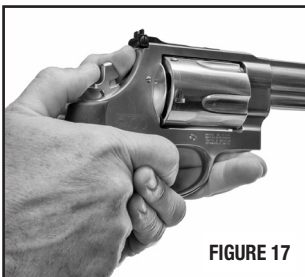
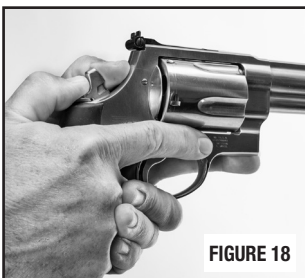

FIGURE 17
FIGURE 18
2.) Place the thumb of your firing hand on the hammer spur. You must always control the hammer with your thumbs when decocking the handgun. If the hammer slips while the trigger is held to the rear and you have failed to block the hammer travel, your handgun will fire (FIGURE 17).
3.) Apply pressure to the trigger to release the hammer as shown (FIGURE 17). Immediately after the hammer has come out of cocked position, release the trigger and withdraw your finger from the trigger guard (FIGURE 18).
4.) Carefully ease the hammer forward while removing your other thumb from between the hammer and frame (FIGURE 18) until the hammer is in the “at rest” position (FIG 19).